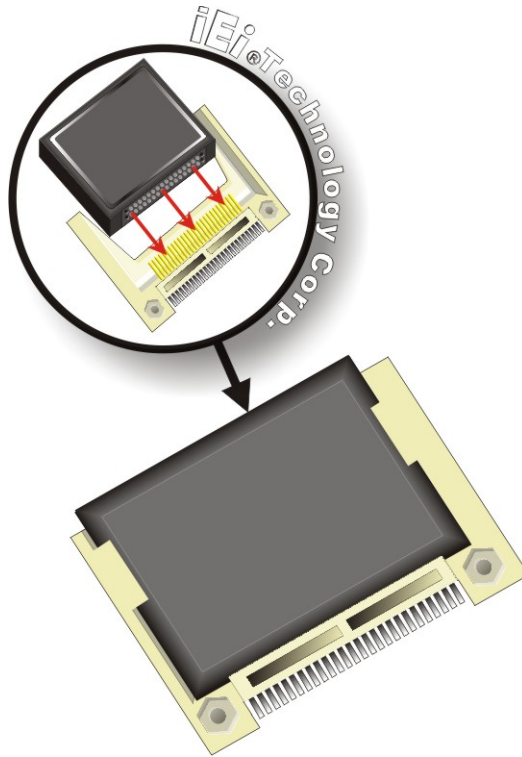

Figure 4-2: CompactFlash® Card Installation
Step 3: Insert the CF card. Push until the CompactFlash® card is firmly seated in the slot. See Figure 4-2.